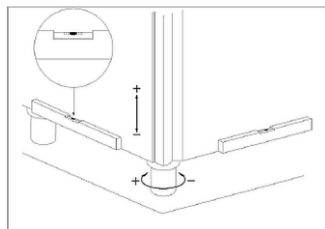

Fig. 2
- Use a spirit level as shown in Fig. 2.